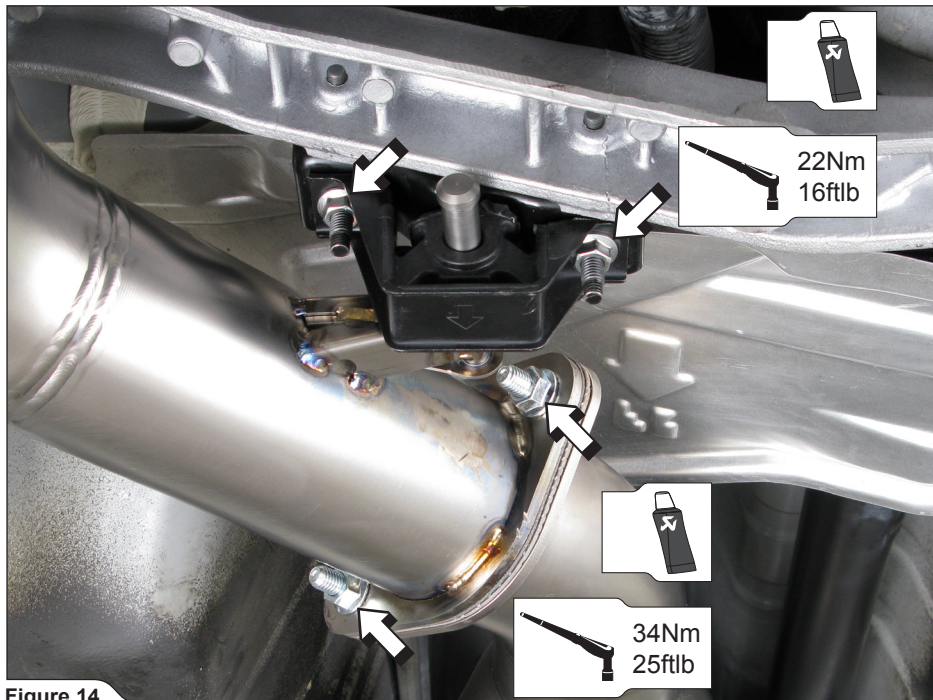

Figure 14
3. **For Slip-On and Evolution:** tighten the Akrapovič link pipe onto the vehicle to a specified torques, using stock nuts (**Slip-on**) or additional bolts and nuts (**Evolution**) (**Figure 14, 15**).